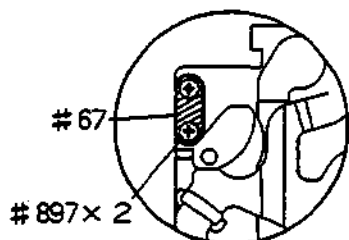

fig. 4-2
② can be adjusted by re-locating #67. (fig. 4-2)
③ can be adjusted by replacing GII or Mirror holder FA3-53.